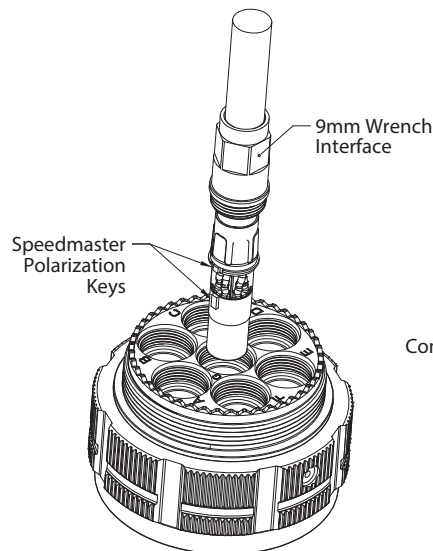

FIGURE 1
- A. Slide completed SpeedMaster assembly into the contact cavity, making sure to align the SpeedMaster's polarization keys with the cavity's keyway. (Figure 1)